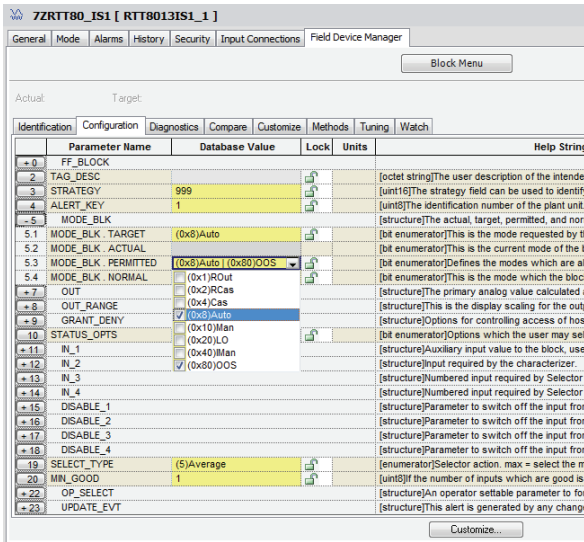

Figure 14. Configuration Tab
- ▶ The Configuration tab (Figure 14) is used either off-line or on-line to enter device block parameter settings into the Field Device Manager database, and on-line to download those changes to the device.